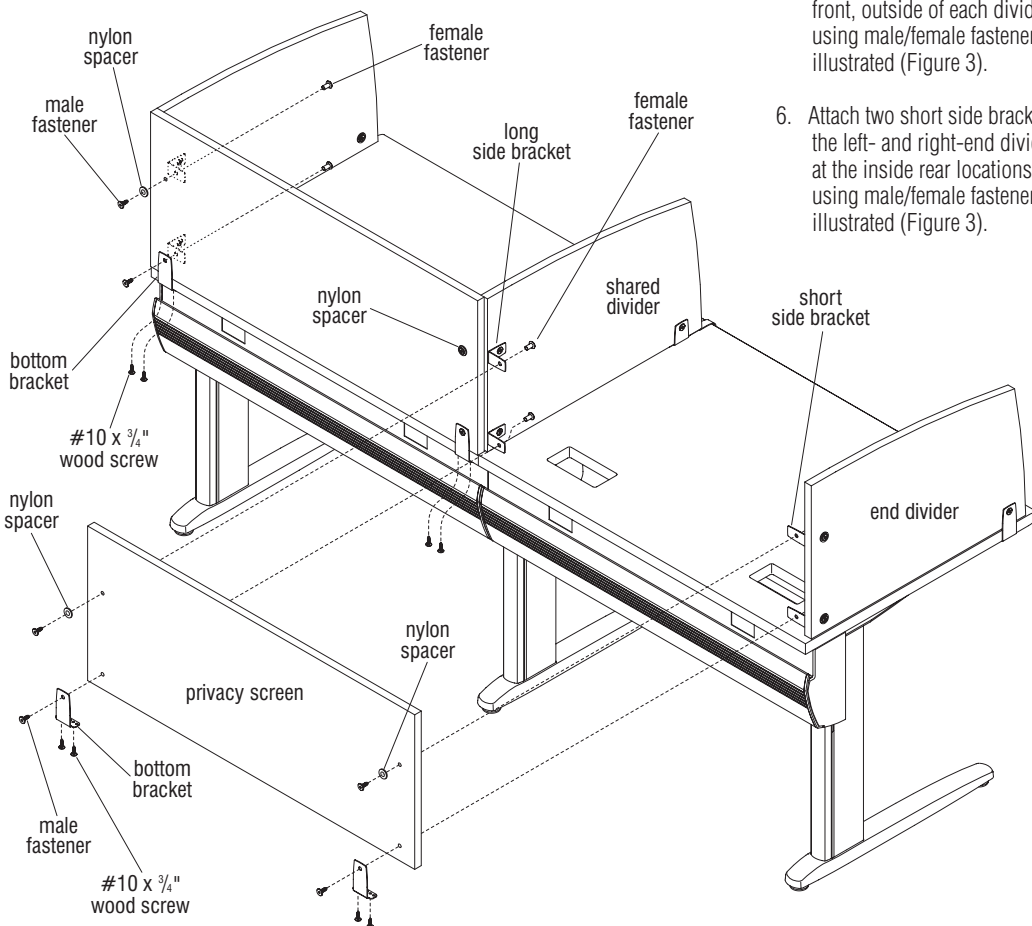

Figure 4
8. To install privacy screens, first insert two male fasteners through two bottom brackets and press the fasteners into the mounting holes at the lower, outside mounting holes of the privacy screen. Position the privacy screen into place, aligning the screen's bottom mounting holes with the short side bracket mounting holes. From the inside, thread a female fastener through the short side brackets and into the male fastener to hold the divider in place at the bottom brackets (Figure 4).
9. Secure the top of the privacy screen to the short side brackets of the dividers using male/female fasteners and nylon spacers where required. As described above, when securing the privacy screen to the divider, use the larger diameter female part of the male/female fasteners on the inside of the table. Use a male fastener with a nylon spacer at the back, top of the privacy screen. This will aid to properly align the divider screen (Figure 4).
10. Secure each bottom bracket to the underside of the worksurface using two #10 x 3/4" wood screws into pre-drilled holes (Figure 4).